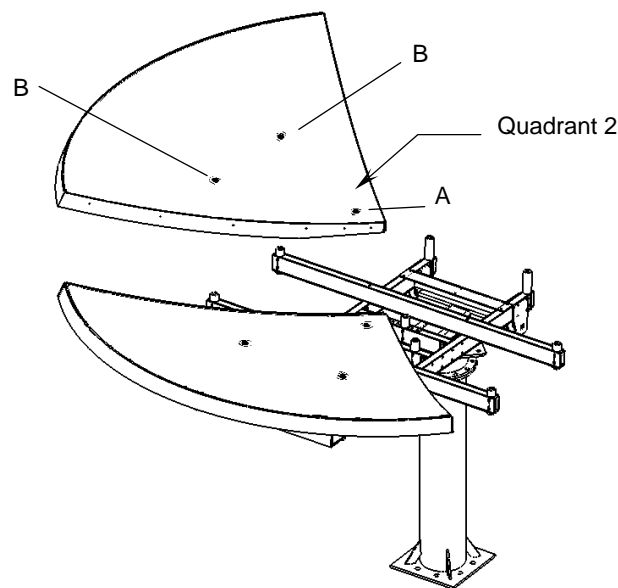

Figure 17: Quadrant 2 Assembly
15. Position quadrant 2 (quadrant 4 for inverted) to the right side of the frame as shown in Figure 17, Quadrant 2 Assembly.